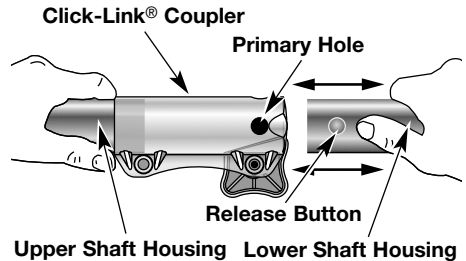

Fig. 14
2. While firmly holding the add-on, push it straight into the Click-Link® coupler (Fig. 14).
**NOTE:** Aligning the release button with the guide recess will help installation (Fig. 14).